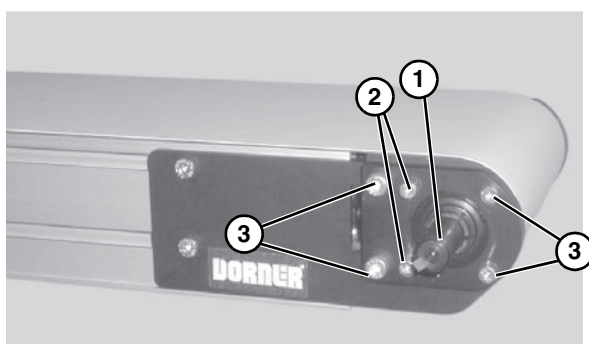

Figure 6
3. Locate drive output shaft (**Figure 6, item 1**). Remove two (2) M8 screws (**Figure 6, item 2**) and four (4) M6 screws (**Figure 6, item 3**) and discard.